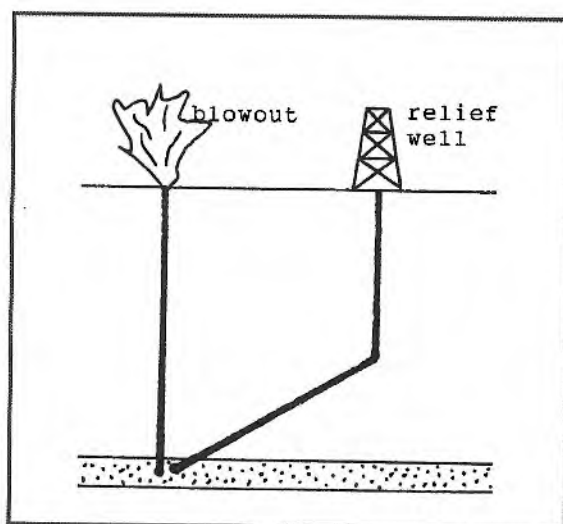

FIG. 6-12 Relief Well
5. If there is no pipe available to hold the valve, a relief well must be drilled. A rig is set up off to the side and drills a directional hole that penetrates the formation very near to the original well. Water or cement is then pumped down the relief well to kill the blowout (FIGURE 6-12).